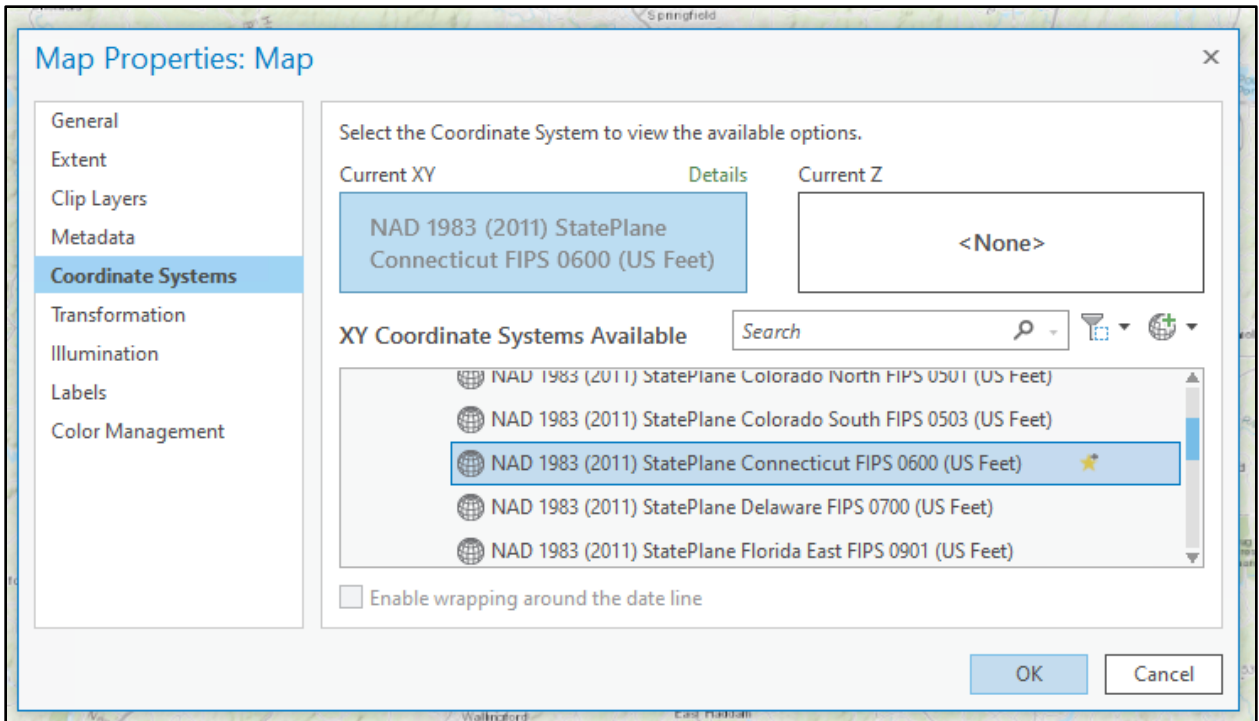

Figure 26. Coordinate system in ArcGIS Pro.
- Under the coordinate systems tab, check the current coordinate system is listed as **NAD 1983 (2011) State Plane Connecticut** (shown in Figure 26, below).